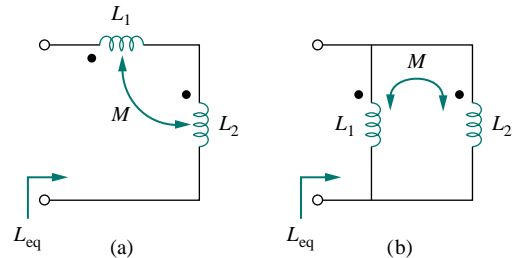

Figure 13.74 For Prob. 13.4.
- 13.4** (a) For the coupled coils in Fig. 13.74(a), show that
(b) For the coupled coils in Fig. 13.74(b), show that